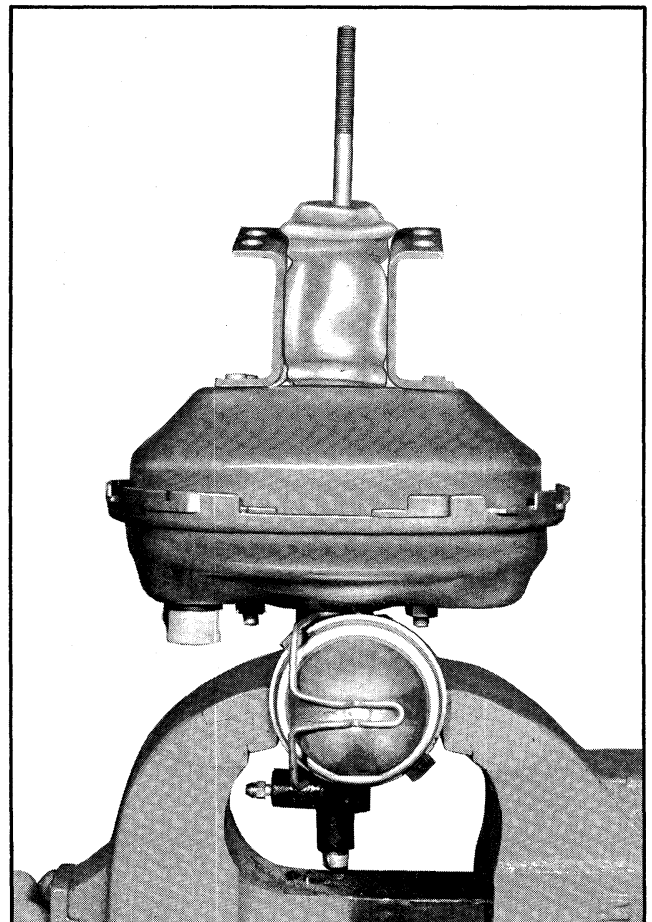

Fig. 5A-6 Brake Unit Mounted in Vise
6. Remove rear housing and power piston assembly by lifting straight up slowly and lay it aside on a clean smooth surface (Fig. 5A-7).